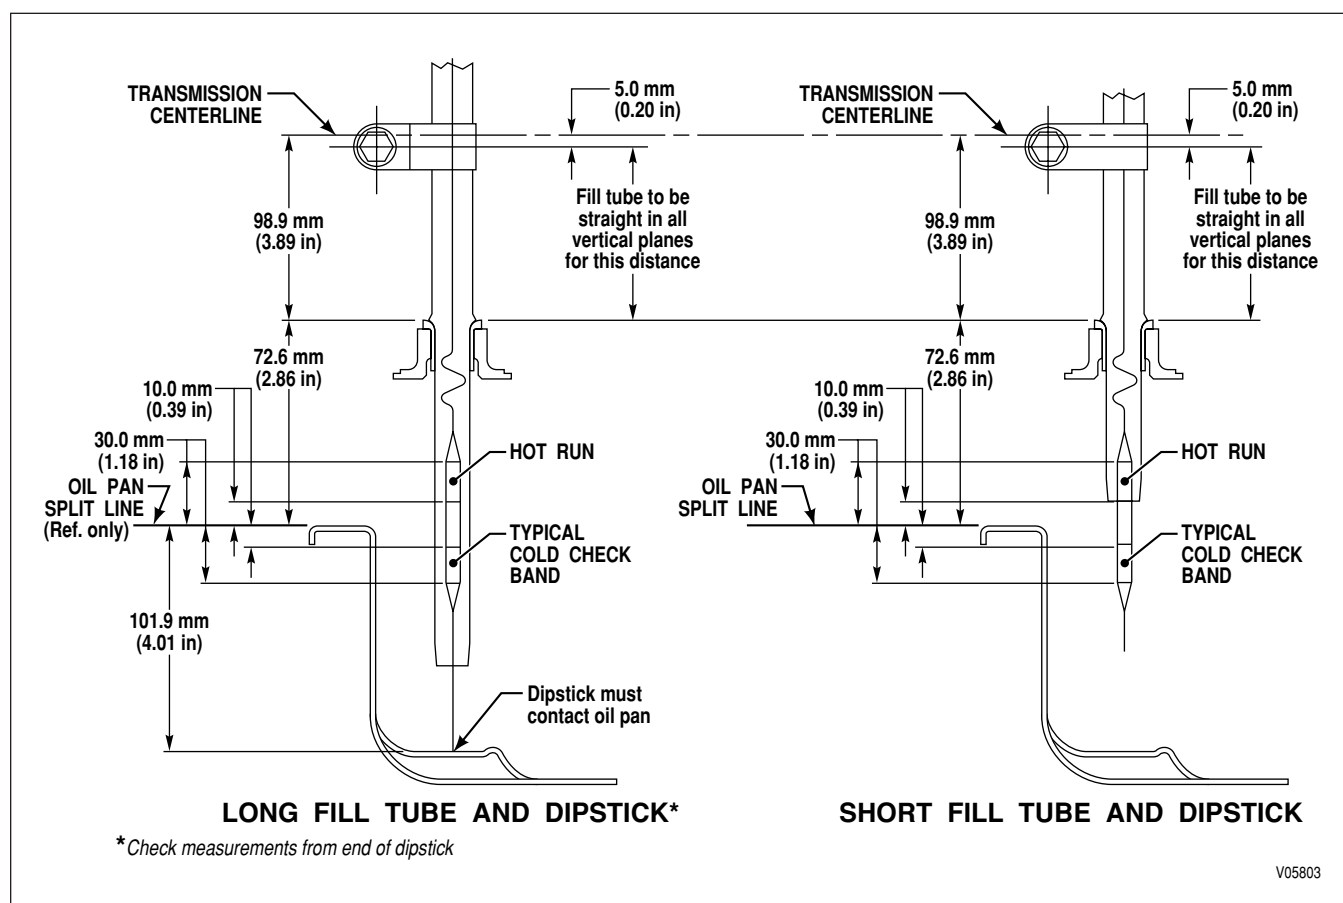
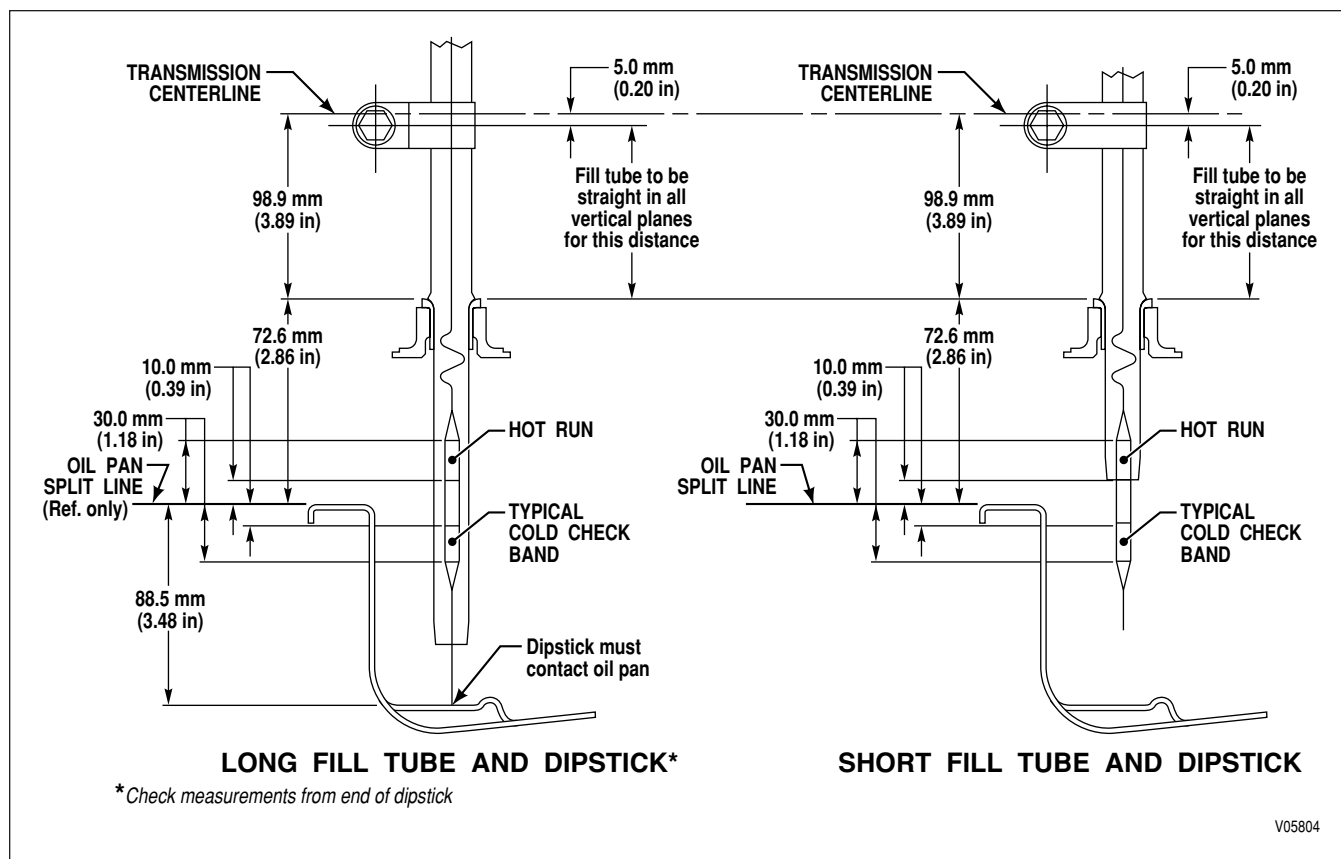

Figure P-1. Fill Tube And Dipstick Requirements (Standard Oil Pan)
Figure P-2. Fill Tube And Dipstick Requirements (Shallow Oil Pan)
NOTE: To ensure accurate fluid level checks, be sure that the fill tube and dipstick meet Allison Transmission specifications. Requirements for the standard oil pan are shown in Figure P-1 and requirements for the shallow oil pan are shown in Figure P-2.
- Be sure the dipstick contacts the oil pan surface as shown in Figures P-1 and P-2.